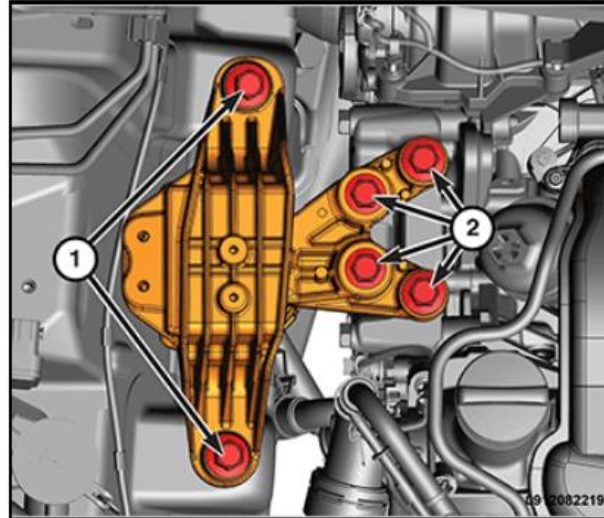

Fig 3. Right Engine Mount
**NOTE:** RU FWD right engine mount shown (Fig 3).
2. Loosen the right engine mount to engine bracket bolts (Fig 3. Labelled 2).
3. Loosen the right engine mount to frame rail bolts (Fig 3. Labelled 1).